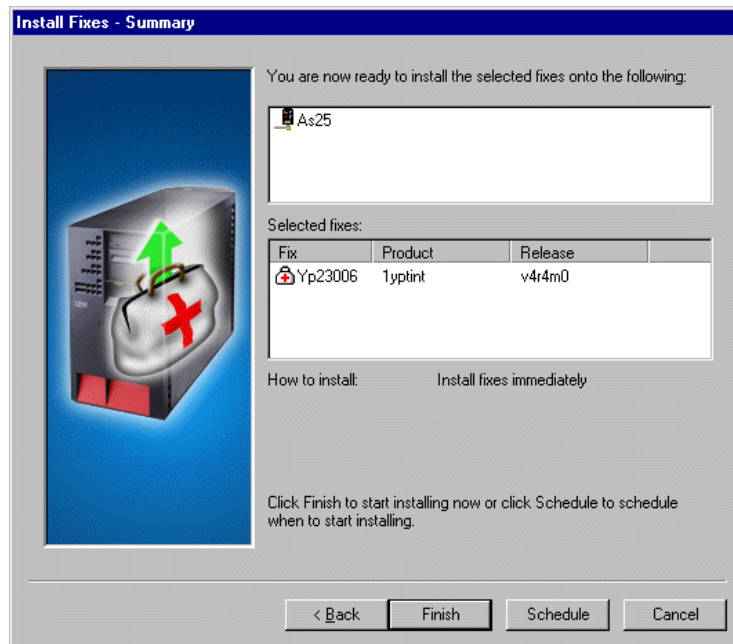

Figure 79. Install Fixes: Summary window
- Right-click the fixes to be installed, and then click **Install** to see the Install Fixes – Welcome window of the Install wizard. Read any messages, and confirm or correct the displayed selections. Click **Next** on each of the following windows, until you reach the Install Fixes – Summary window which is shown in Figure 79 on page 104.